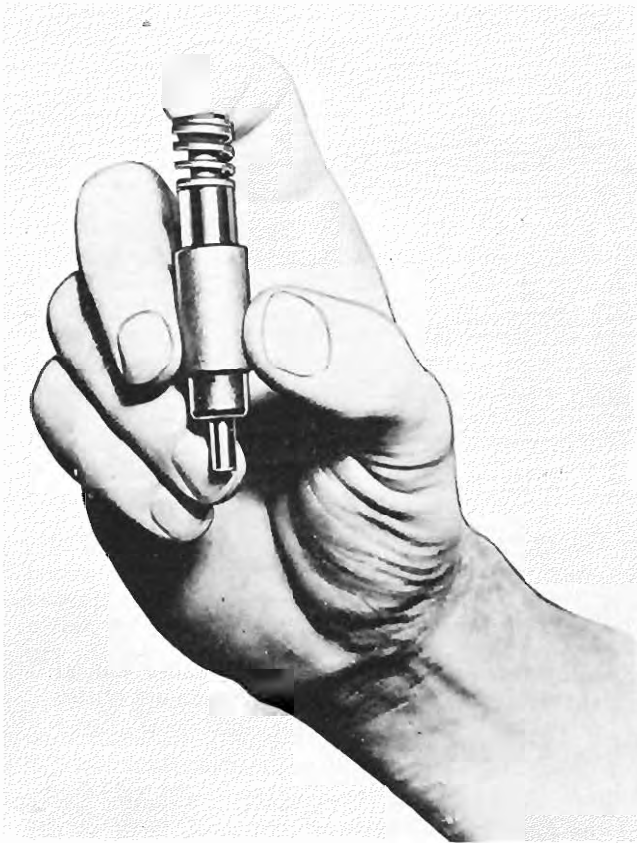
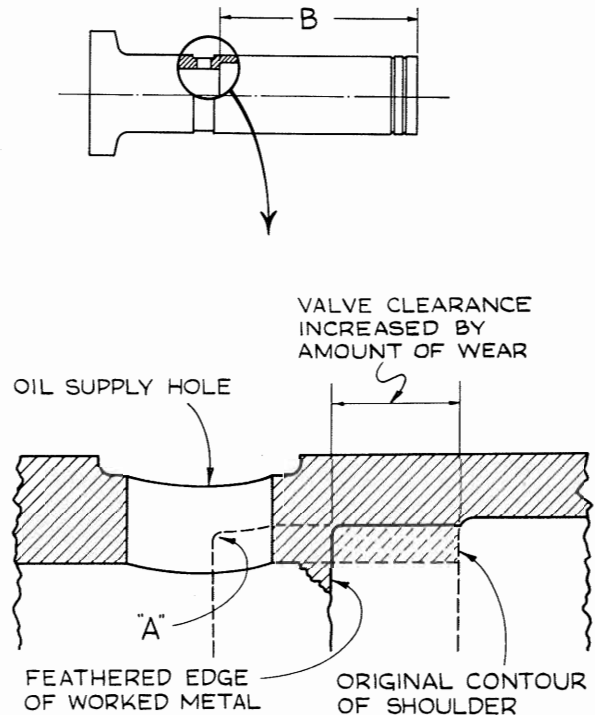
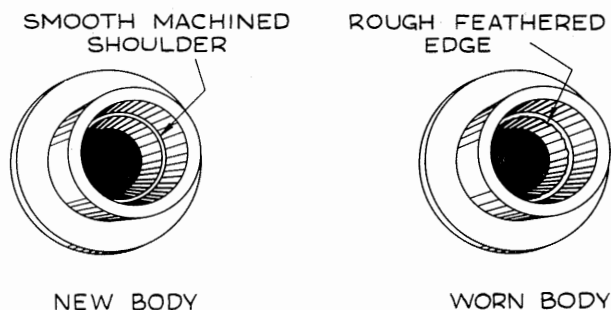
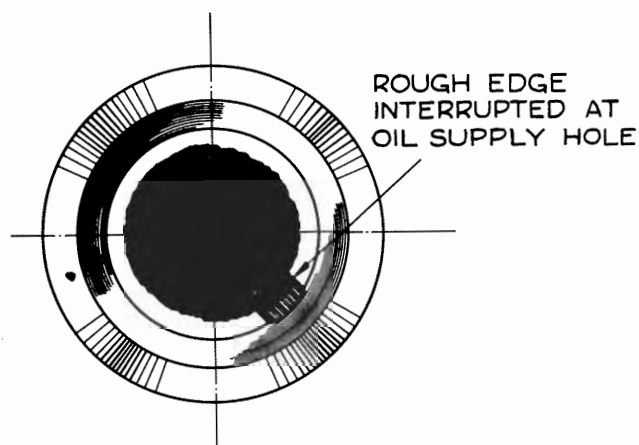

Figure 95 - Checking Hydraulic Tappet Plunger and Cylinder Assembly for Leaks
Figure 96 - Sectional View at Location of Oil Hole In Tappet Body
Figure 97 - View of Tappet Body Interior
Figure 98 - Extreme Wear of Tappet Body Shoulder
are dry and hold the lifter cylinder between the thumb and middle finger in a vertical position with one hand; then place the plunger in position so that plunger just enters the lifter cylinder. (See figure 95.) Depress the plunger quickly with the index finger; if plunger returns to approximately its original position, the unit may be considered to be satisfactory. If, however, the plunger does not return to its original position but remains in a collapsed position, this will indicate that the ball check valve is not seating properly. Wash the lifter cylinder again as described in Section VI, after which repeat the check as described above. If the same condition still exists, the hydraulic tappet unit is defective, and both the cylinder and plunger must be replaced. See Table of Limits for fit of cylinder assembly and socket in tappet body. It has been found that tappet bodies are subject to wear at the shoulder machined on the inside of the tappet body bore. Since this shoulder serves as a seat for the cylinder and plunger assembly, any wear occurring at the shoulder will increase the distance between the tappet cylinder and push rod socket, which in turn will result in excessive valve clearance. In addition, progressive wear of the shoulder reduces the cross sectional area of the tappet body at the adjacent oil groove (see figure 96) to the point where actual failure of the body may occur. It is recommended, therefore, that the interior of all tappet bodies be inspected at each overhaul period according to the procedure outlined below. This inspection, which is to be in addition to the inspection requirements for hydraulic tappets already described in the applicable overhaul manual, consists of three operations as follows:
examine the interior of the bore, using a small flashlight or other suitable means to illuminate the interior surfaces. If any appreciable amount of wear at the shoulder has occurred, a feathered edge of worked metal will be evident as shown in Figure 96. The existence of the feathered edge, which will appear as shown in Figure 97 is sufficient cause for rejection of the tappet.
b. In instances where extreme wear has occurred, the worn shoulder may progress into the tappet body as far as the oil supply hole as shown at "A" Figure 96. In such cases the appearance of the rough edge of the shoulder where it intersects the hole will be visibly altered as shown in Figure 98. Any tappet body showing an indication of this nature should be rejected.
c. Using a standard depth gage, measure the depth ("B" Figure 96) of the shoulder in the bore, Reject any tappet body with a shoulder depth exceeding 1-13/16 inches.